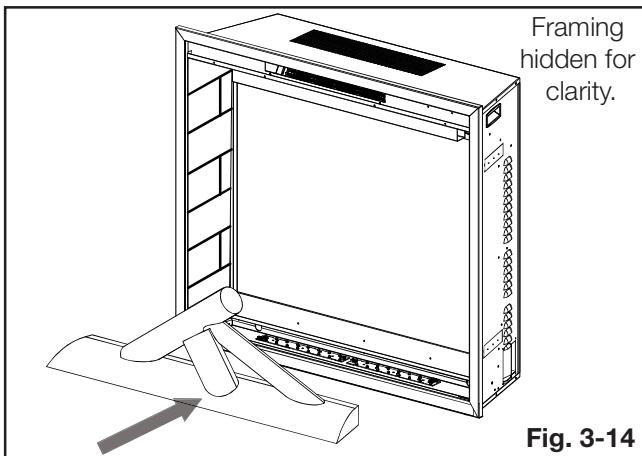

Fig. 3-14
11. Re-install the log set without reinstalling the 4 screws removed in step 4 (**Fig. 3-14**).